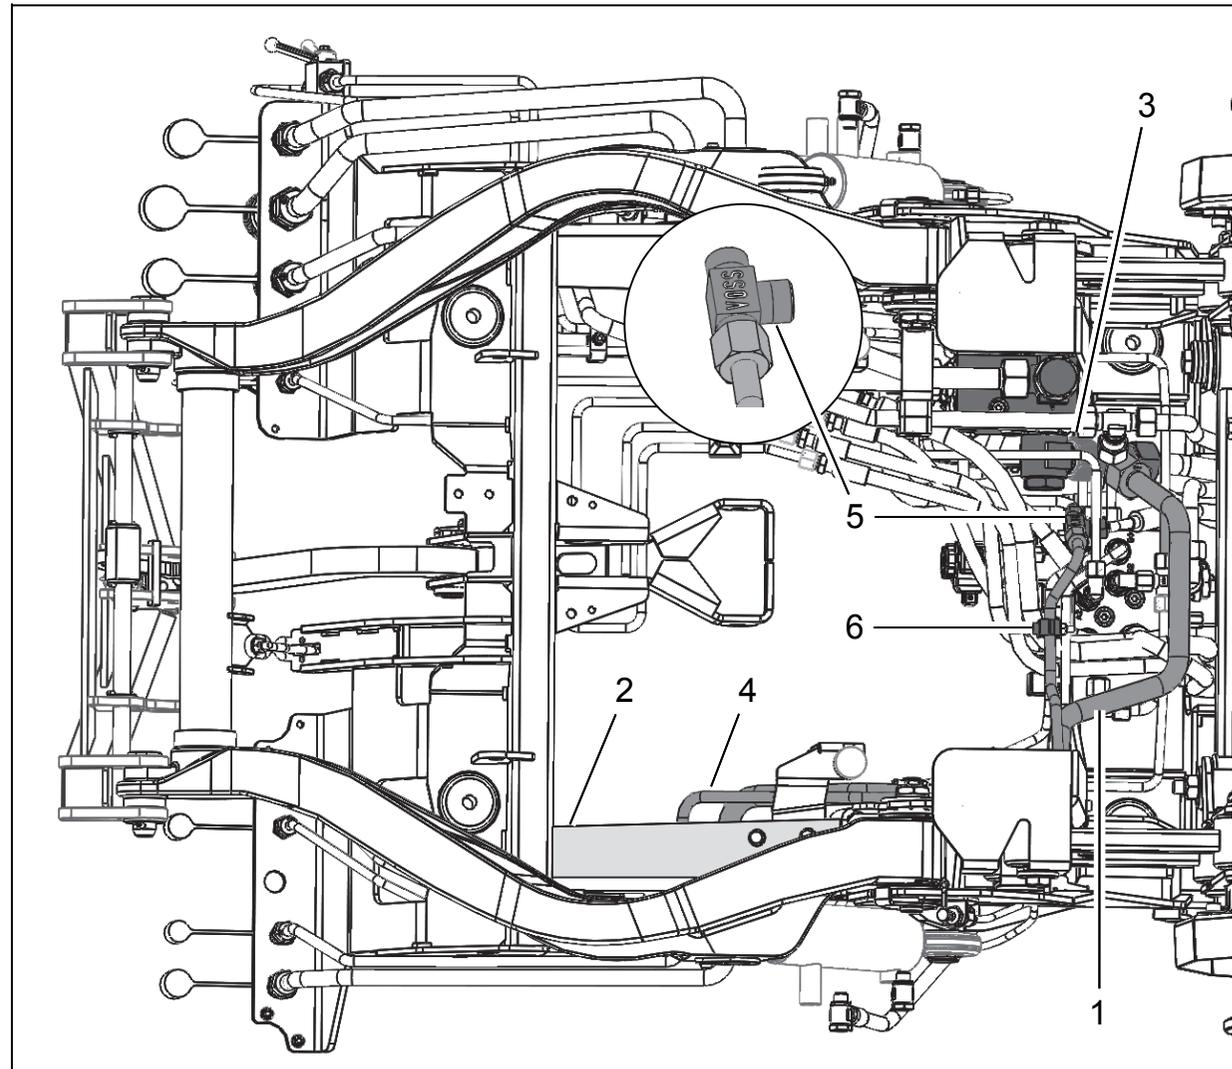

Fig. 6
- Remove the sealing plug of the L-screw connection (Fig. 6/3).
- Fit the supply line (Fig. 6/1) to the right-hand retaining frame (Fig. 6/2) and the L-screw connection of the rotary control block (Fig. 6/3).
- Remove the existing elbow union and replace with the check valve (Fig. 6/5).
- Install the pressure sensing line (Fig. 6/4) between the right-hand retaining frame (Fig. 6/2) and the check valve (Fig. 6/5).
- Attach the pressure sensing line to the adjacent hydraulic line using the provided pipe clamp (Fig. 6/6).